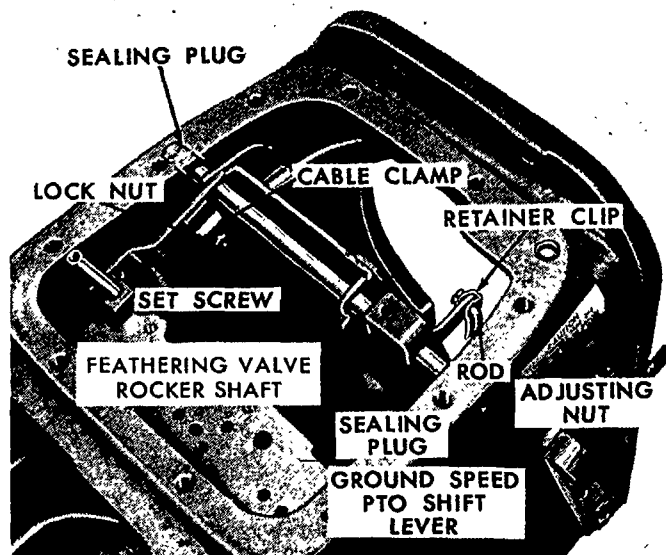

Figure 57
24. Remove the roll pin that secures the inching pedal to the shaft and remove the pedal. Remove the upper and lower cotter keys and retaining clips from the inching pedal rod. See Figures 57 and
2. Install the inching pedal shaft with O-ring in the left side of the transmission case. Install the control rod with the retainer clips and cotter keys. Refer to Figures 57 and 58.